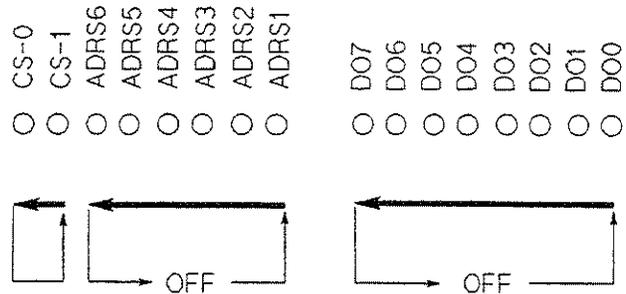

Figure 10-11. Bias Current Interface Function Test
- Confirm CS0 and CS1 LEDs on the simulator turn ON as the HP 4284A's output signal is displayed on the LCD. (Refer to Figure 10-11).
- Confirm that ADRS1-ADRS6 LEDs on the simulator turn ON in accordance with the hexadecimal number displayed on the LCD. One of the 6 LEDs turns ON in sequence as shown in Figure 10-11.
- Confirm that DO0-DO7 LEDs on the simulator turn ON in accordance with the hexadecimal number displayed on the LCD. One of the 8 LEDs turns ON in sequence as shown in Figure 10-11.